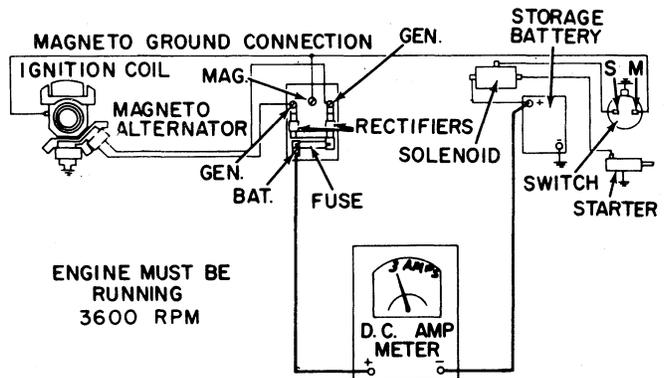

Figure 14
1. Figure 14 shows how an ammeter is connected to check the alternator output with the battery connected. The lead from the battery terminal on the rectifier is disconnected. The positive ammeter lead is connected to the above terminal, and the negative lead is connected to the battery wire just disconnected from the rectifier. With the engine running the ammeter should read about three amperes.